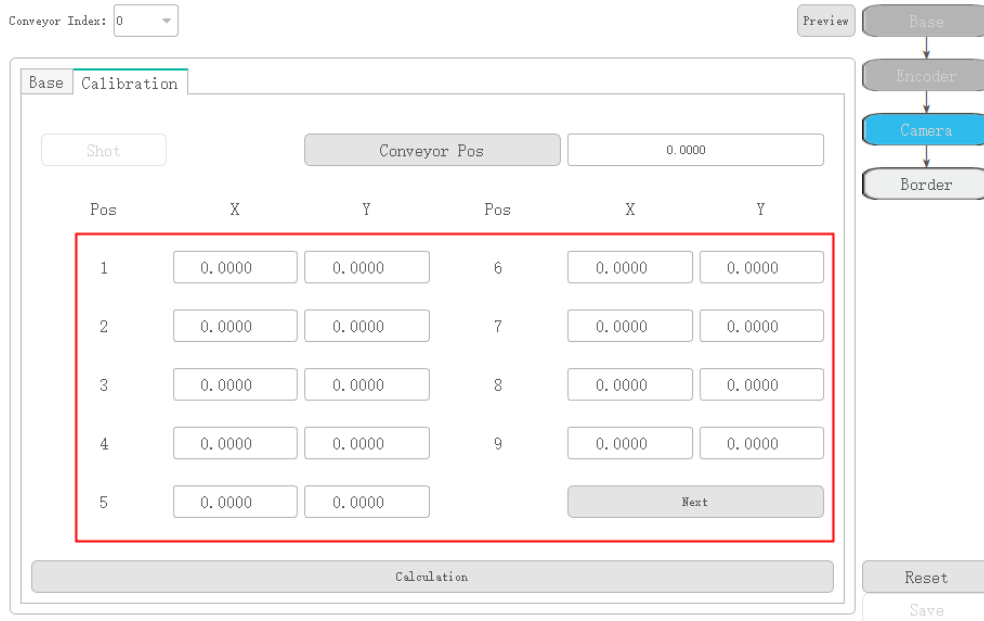

Figure 3.17 Get the image coordinates
4. Get the image coordinates of the nine points on the calibration board from the vision software after the vision system finds the calibration board and input them to the corresponding positions on the calibration page, as shown in Figure 3.17.